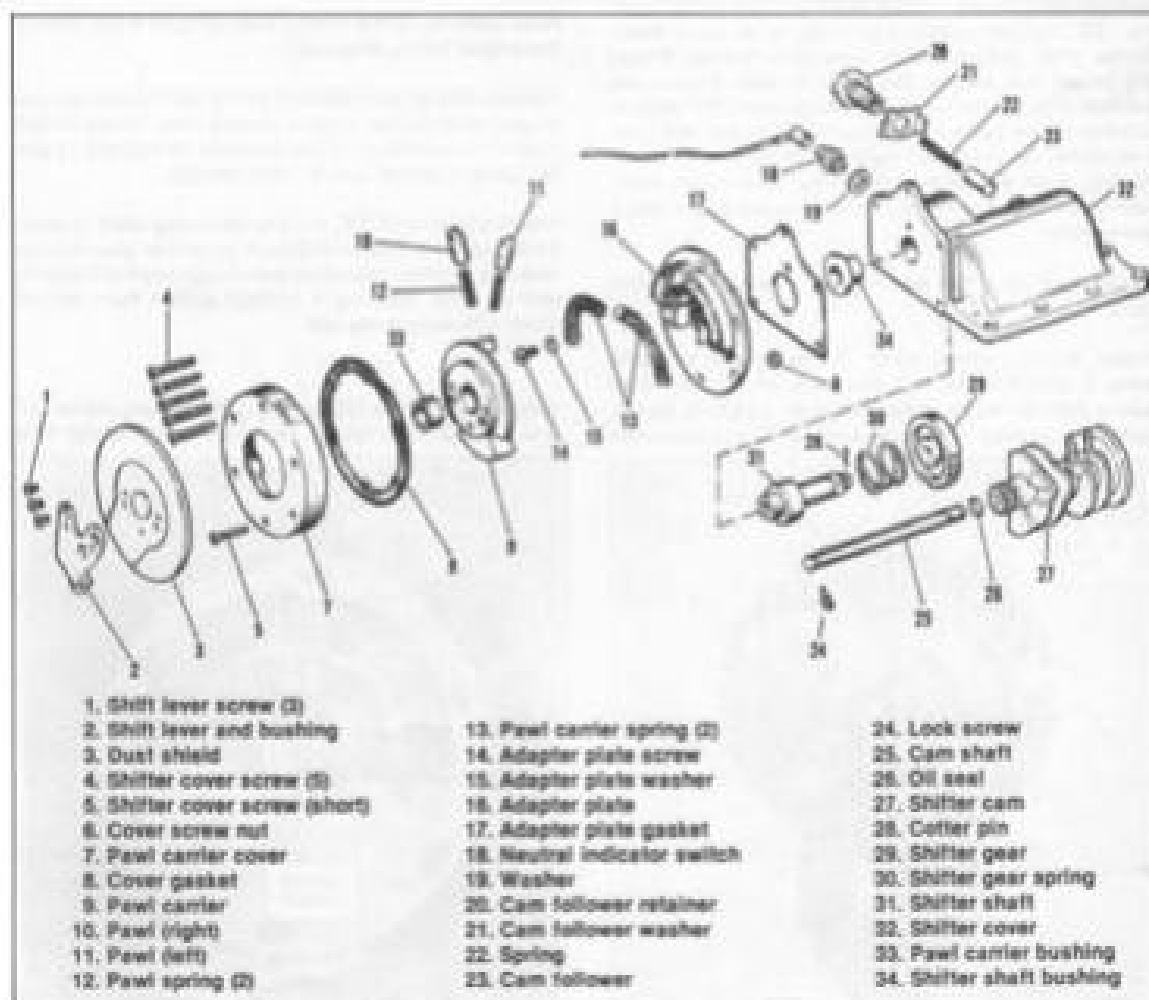

Figure 4-12. Foot Shifter Cover — Exploded View
Disassemble shifter cover parts 1 through 12 as described in "Disassembling Shifter Cover," see Figure 4-12. Time shifter notches as illustrated in Figure 4-14. Loosen screw (14, Figure 4-12) and rotate adapter plate (16) until timing notch (Figure 4-14) in adapter plate, located at bottom of shifter gear hole, lines up with notch between two shifter gear teeth. Make alignment exact, then tighten adapter plate bracket screw to lock in position. This adjustment can be made with shifter in any gear (not neutral).
CLEANING, INSPECTION AND REPAIR (Figure 4-12)
ASSEMBLING SHIFTER COVER (Figure 4-12)
(Figure 4-12)